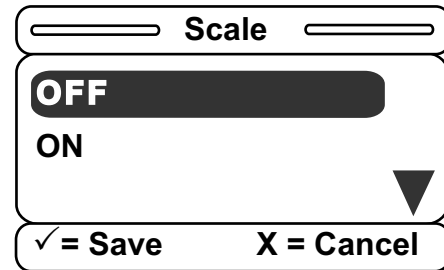

Figure 33 – Scale
- After you select the **Scale** item, the Scale screen displays (Figure 33). You can set the Scale option to ON or OFF. Press **Enter** on the footboard panel to confirm your selection or **Exit** to cancel the operation.